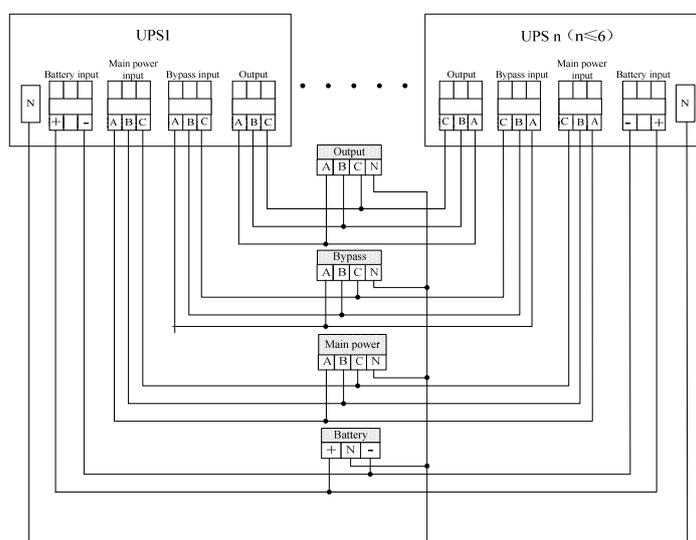

Figure 4.1 Connection Chart of Paralleled Machines
1. Connect the main power input, bypass input, output and battery of UPS which is ready for parallel according to figure 4.1, and then connect to the main power, bypass, battery and load.